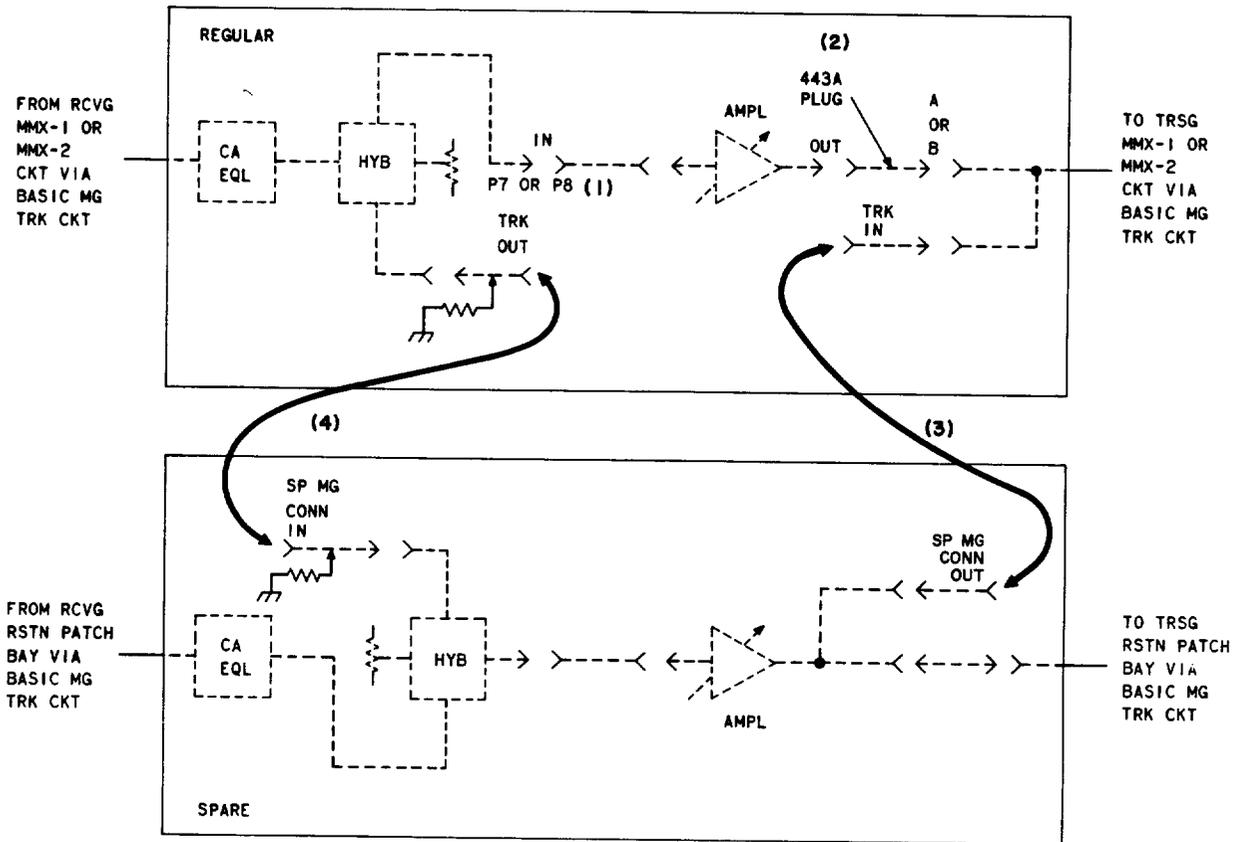

Fig. 6 → Restoring Regular Equipment to Service—Patching Procedure ←
- Remove the P7 or P8 plug (IN) from the 75-ohm termination; insert it into PAD 1 [patch (1), Fig. 6].
- Insert a 443A plug into the OUT and A (or B) jacks [patch (2), Fig. 6].
- 19 Remove the P2EB cord from the TRK IN jack of the regular connector and the SP MG CONN OUT jack of the spare connector [patch (3), Fig. 6].
- 20 Remove the P2EB cord from the TRK OUT jack of the regular connector and the SP MG CONN IN jack of the spare connector [patch (4), Fig. 6].